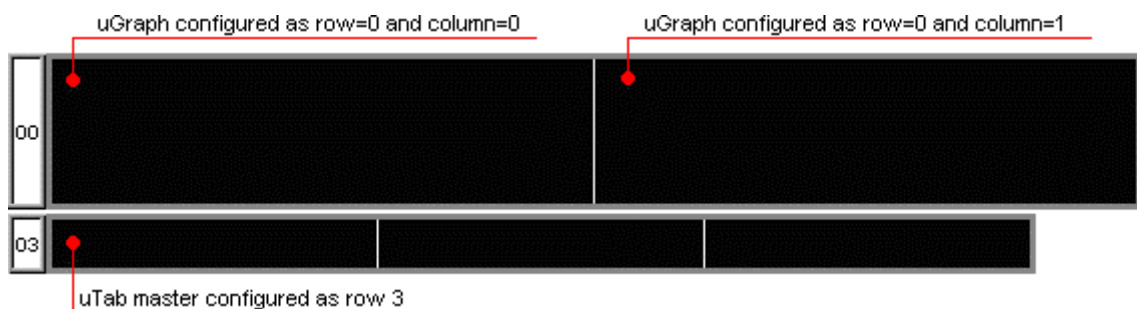

Figure 2 - Example of displayboard configuration
- when the configuration is correct, it is possible to see the setting the MicroBoards program has automatically assigned to the various displayboards. See Figure 2 for an example;